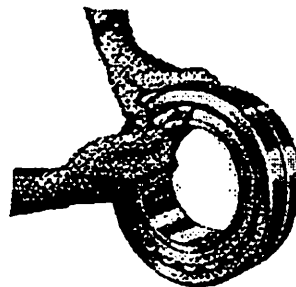

Fig. 3. Unmounted Clearance
**Step #4. (Fig. 3) Unmounted Radial Internal Clearance** Measure the unmounted radial internal clearance in the bearing by inserting progressively larger feeler blades the full length of the roller between the most vertical unloaded roller and the outer ring sphere. Do not roll the feeler blade through the clearance: slide it through. Record the measurement of the largest size blade that will slide through. This is the unmounted radial internal clearance.